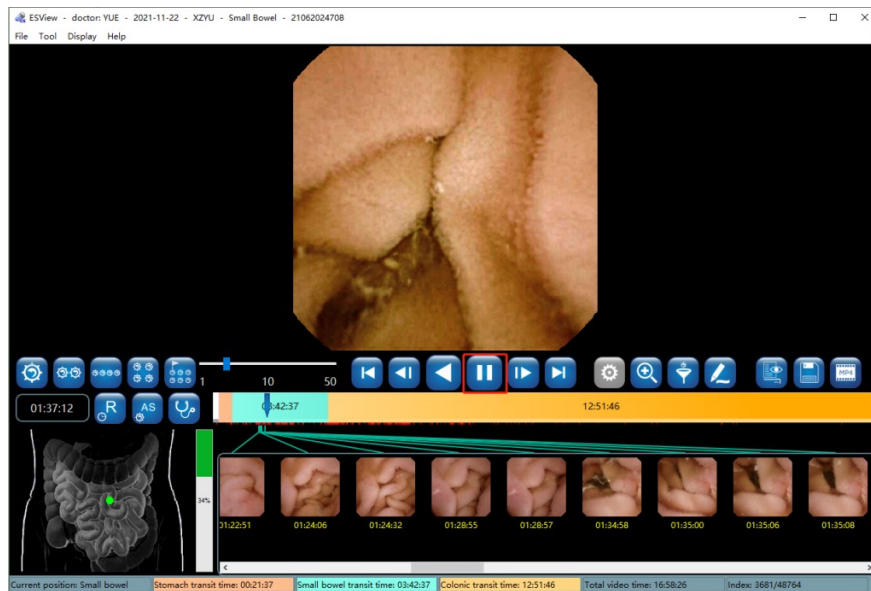

Figure 4-11: Pause Playback Button
2. To stop video playback, click the pause button (Figure 4-11).